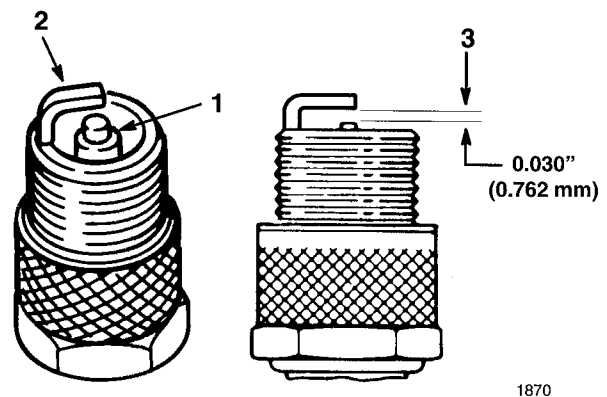

Figure 22
1. Look at the center of the spark plug (Fig. 22). If you see light brown or gray on the insulator, the engine is operating properly. A black coating on the insulator usually means the air cleaner is dirty.
2. Check the gap between the center and side electrodes (Fig. 22). Bend the side electrode (Fig. 22) if the gap is not correct.